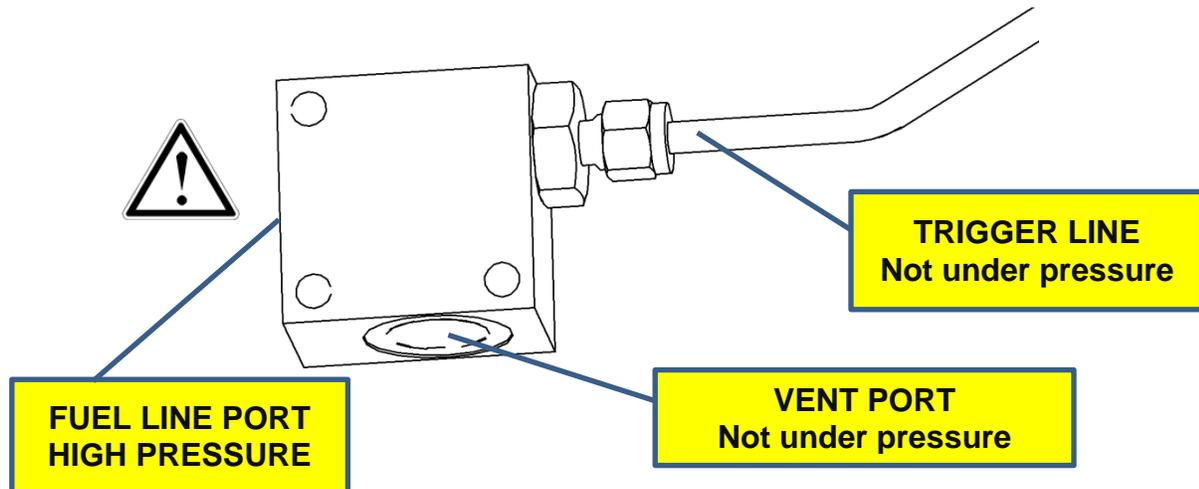

Figure 2 High pressure and vent port locations on the area PRDs.
2. To gain access to the PRD, remove the 3/8-16 bolts on the bottom cover, as shown in Figure 2.